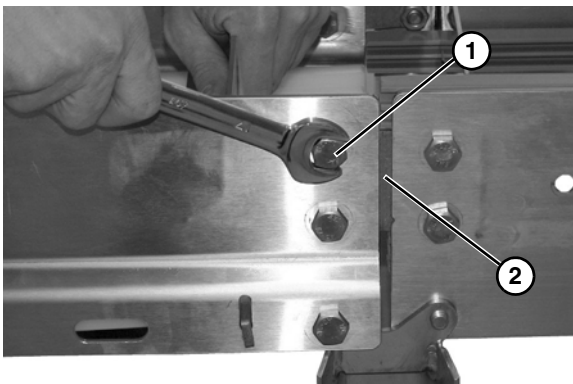

Figure 50
2. Remove two hex head bolts (**Figure 50, item 1**) holding straight section frame to section connecting bracket (**Figure 50, item 2**). Repeat on opposite side.